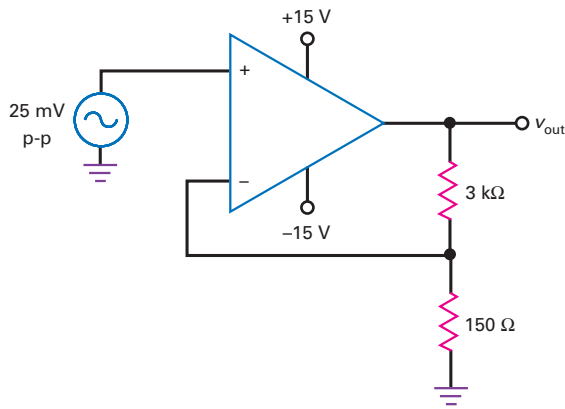

Figure 35-34
- 35.7 In Fig. 35-34, what are the closed-loop voltage gain and bandwidth? The ac output voltage at 100 kHz?